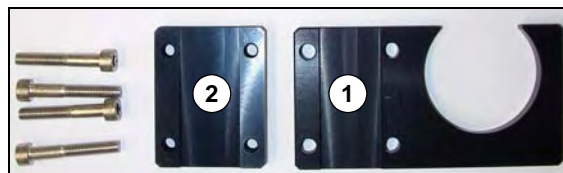

Fig. 3.2.3-5: Holder and counterpart
- Assemble the holding pipes for the Panel PC concentric to the second bore hole from top on the stand (fig. 3.2.3-3) (screws: M10x90).